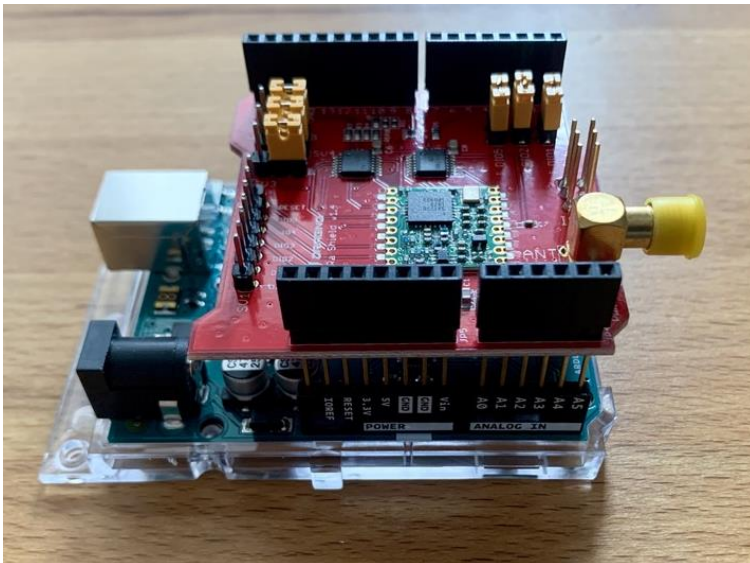

Figure 5: Arduino and shield, mounted
2. Without turning the shield, place it directly on top of the Arduino so that the pins on the shield go into the pin headers on the Arduino and push firmly down (see Figure 5).